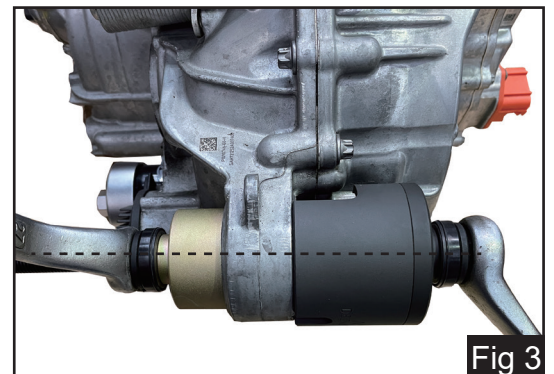

Fig 3
- 6 Make sure that all the tool parts are aligned with the bushing central line (as the dotted line shows on Fig 3)
- 7 Use two 27 mm spanners. One to hold on the fixing nut, and another one for turning (Fig. 3).